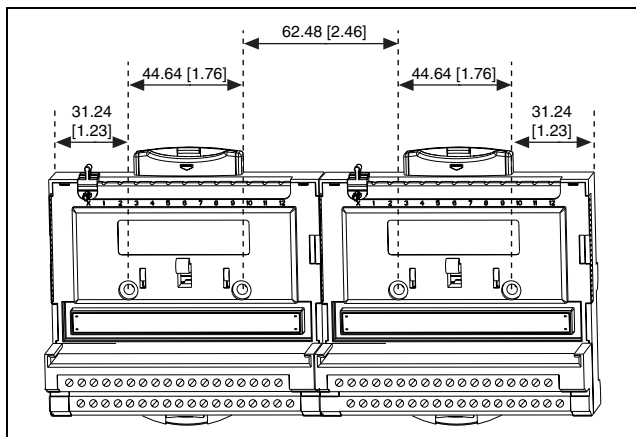

Figure 4. Locating the Mounting Holes
- Use Figure 4 to locate where to drill the mounting holes on the panel. Dimensions are given in millimeters [inches].